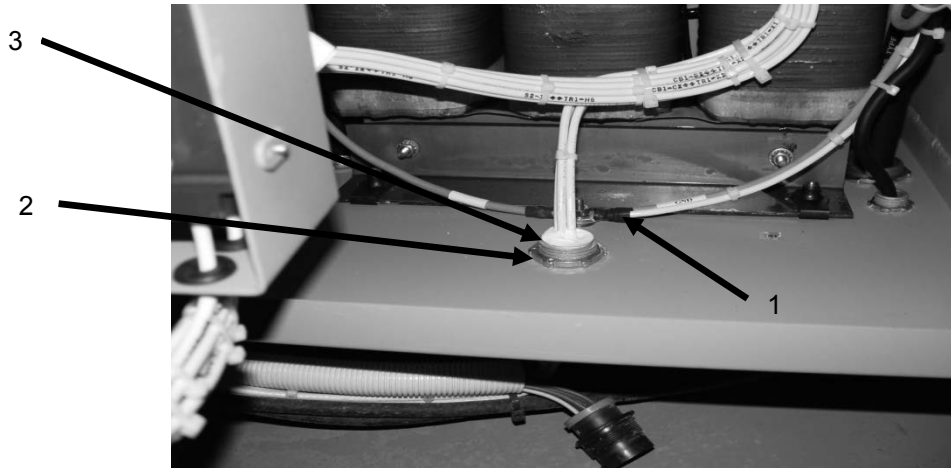

Figure 7. J13 Cable Removal.
- (7) Remove TR1-X0 wire (Figure 7, Item 1) from ground lug terminal at bottom of power box.
- (8) Note locations of wire ties for J-13 wires (including ground wire). Remove wire ties.
- (9) Completely loosen conduit locknut (Figure 7, Item 2) from strain relief bushing (Figure 7, Item 3) for the J-13 cable. Pull strain relief (with J-13 wires) out of power box.
23. Figure: 7